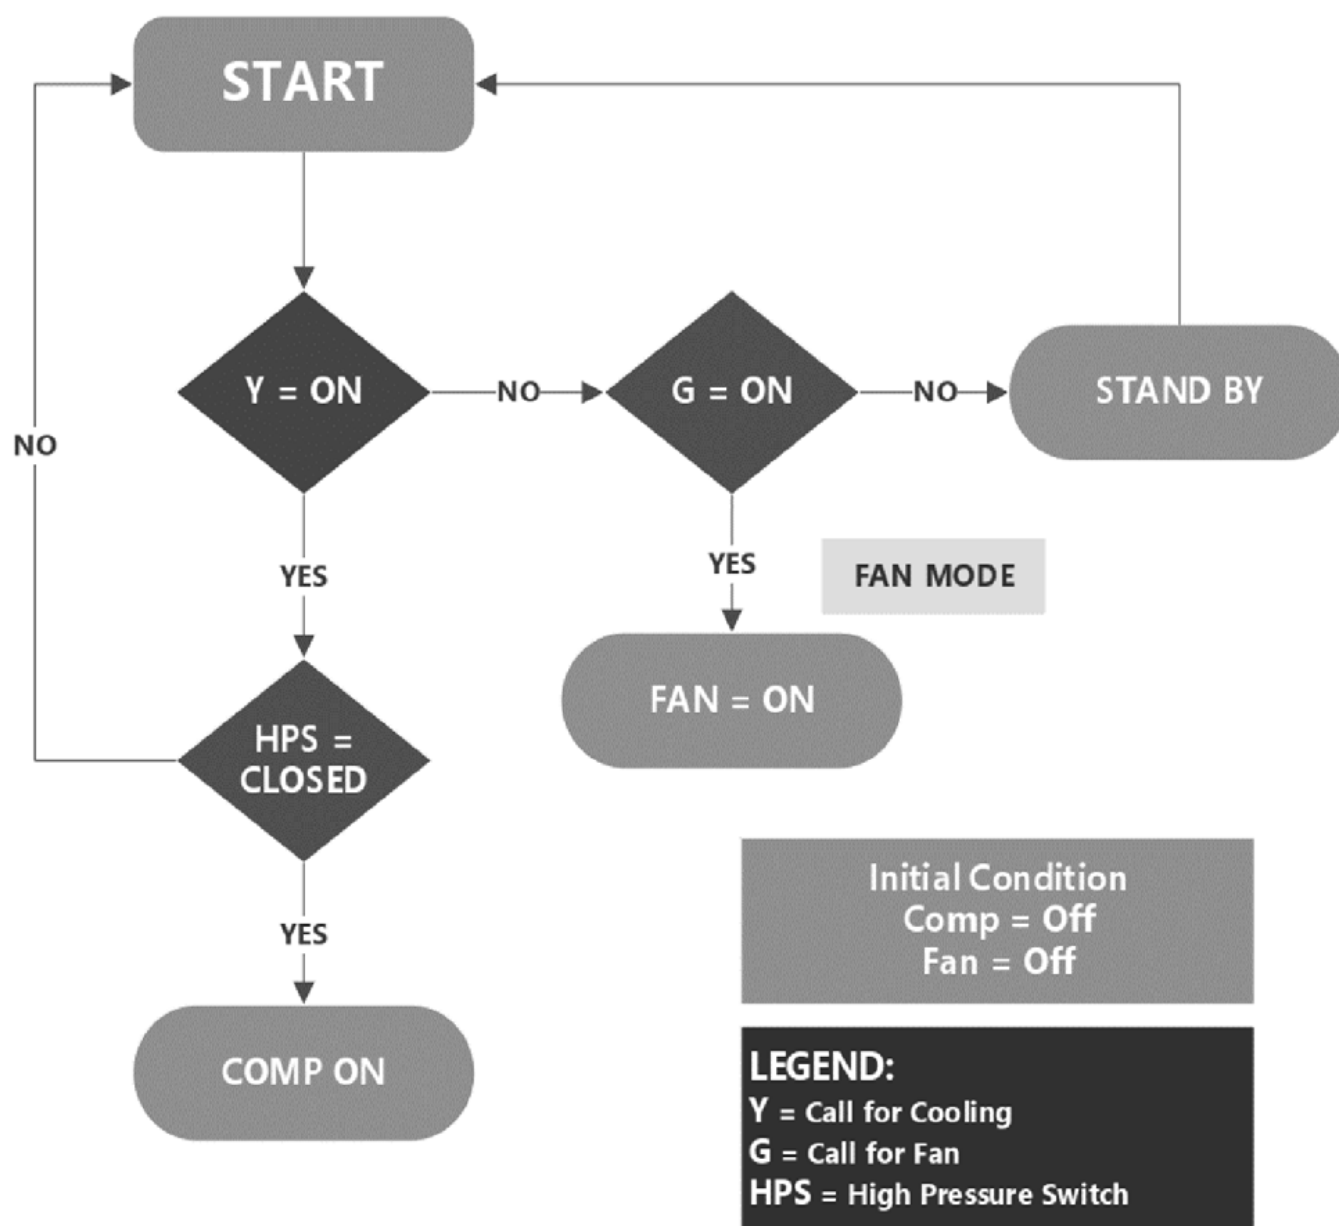

Figure 28 Cooling Sequence of Operations
2. Remove the inlet pressure port plug using a 3/16" hex wrench. (refer to Figure 28)
2. Remove the outlet pressure port plug using a 3/16" hex wrench. (refer to Figure 28)